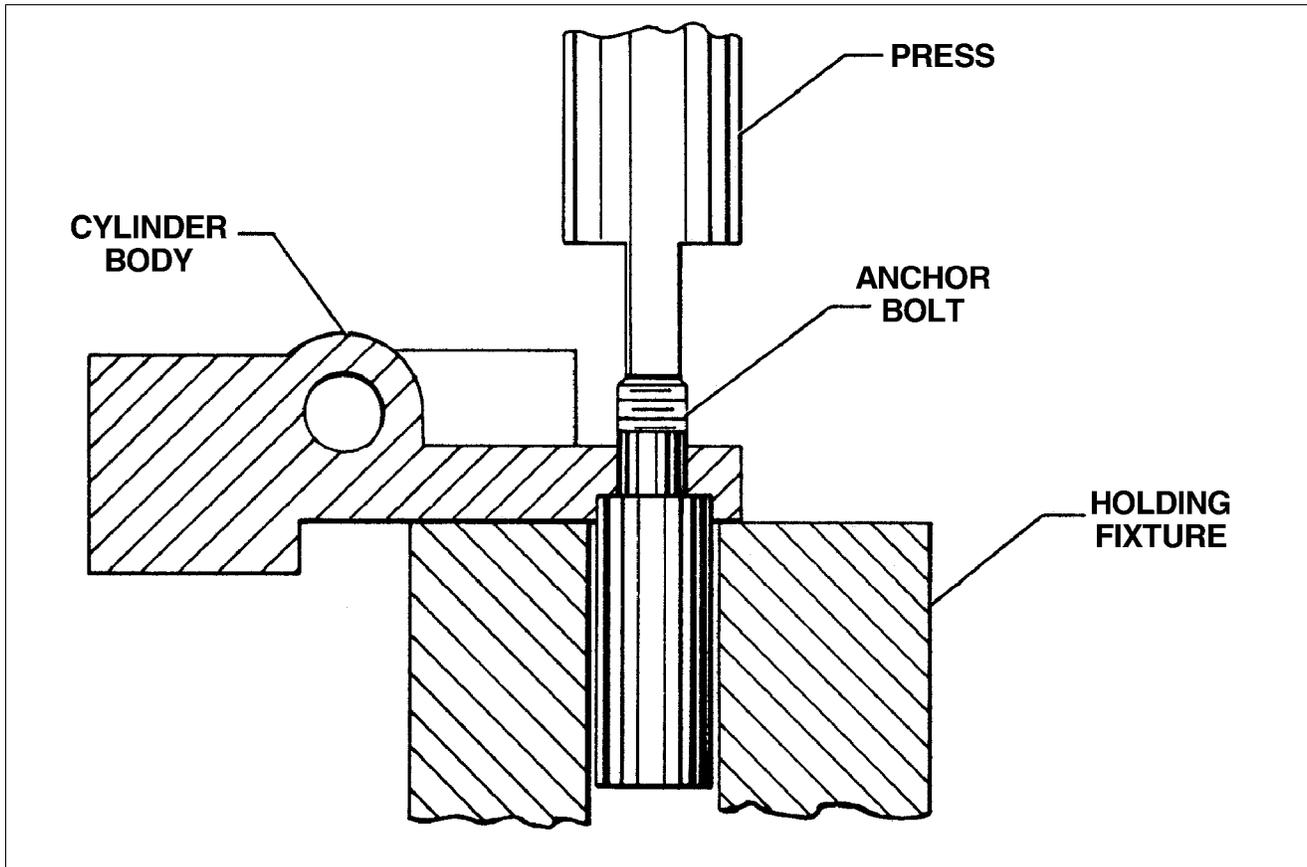

Figure 32-20. Removal of Anchor Bolt
- (1) Position cylinder assembly on a holding fixture. (Refer to Figure 32-20.)
- (2) Use a suitable arbor press to remove anchor bolt from cylinder body.